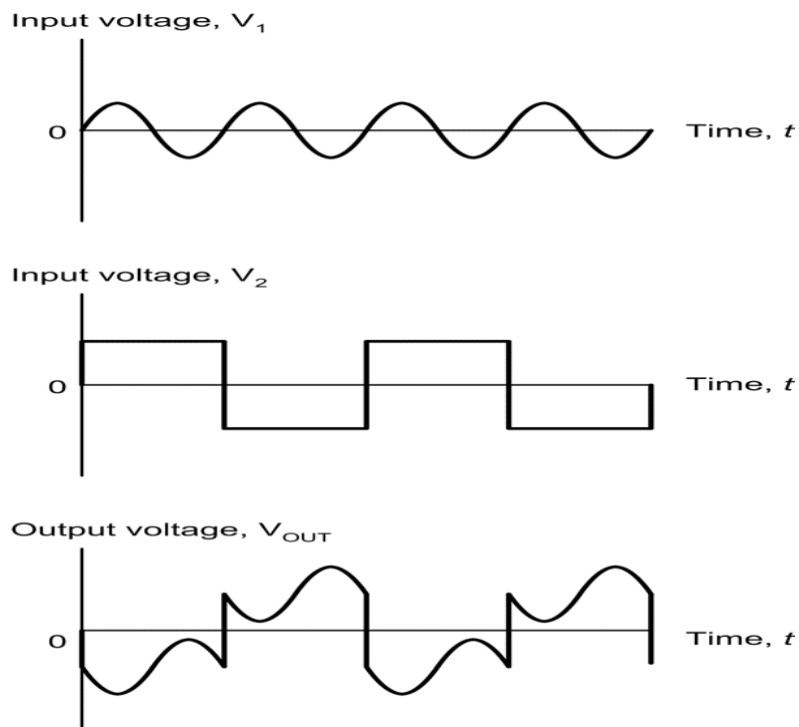

Figure 1.49 Typical input and output waveforms for a summing amplifier
- Typical input and output waveforms for a summing amplifier are shown in Fig. 1.49.